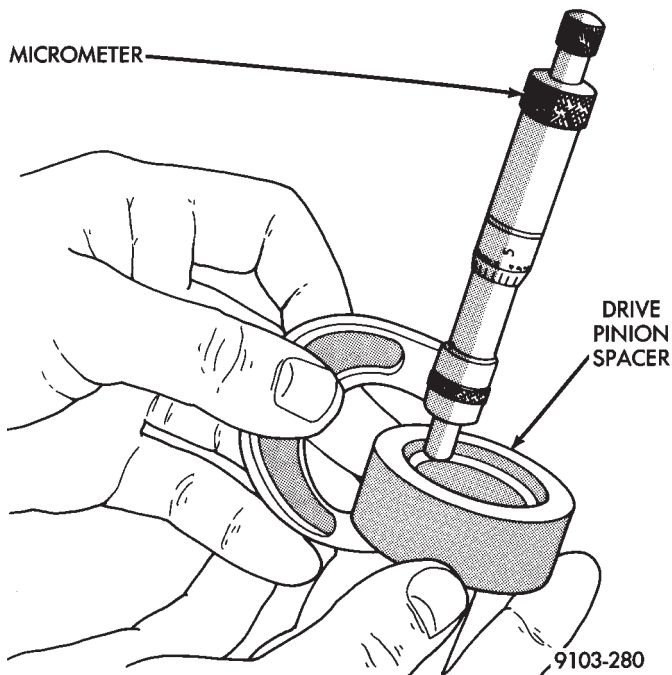

Fig. 14 Measuring Drive Pinion Spacer Thickness
(1) Using a one inch micrometer, measure the thickness of the **original spacer** (Fig. 14).